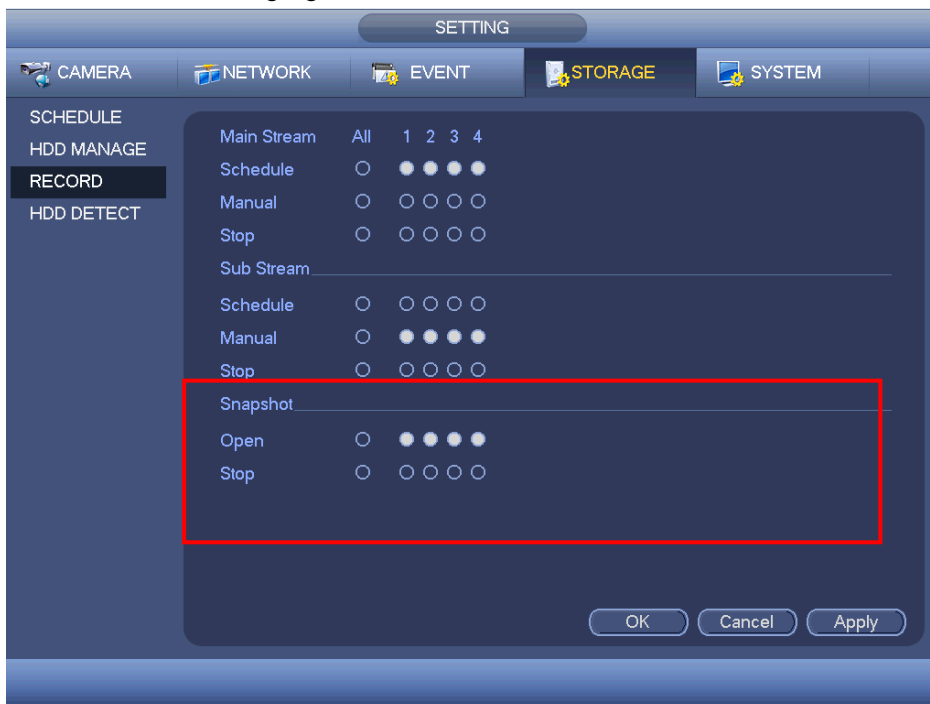

Figure 4-175
- On the preview interface, right click mouse and then select Manual->Record, or in the main menu, from Setting->Storage->Record, check the box to enable snapshot function of corresponding channels. See Figure 4-175.